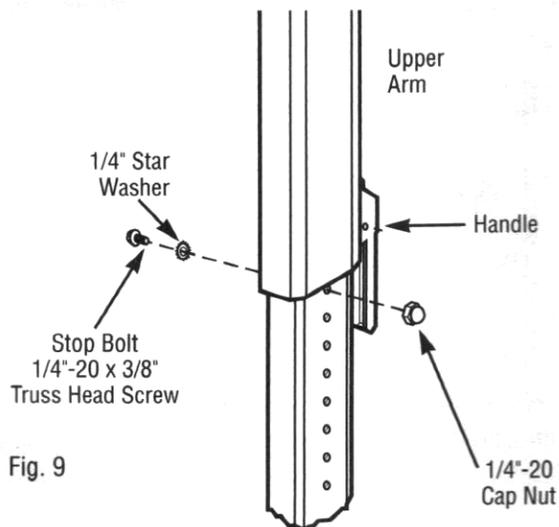

Fig. 9
- Select a stop bolt hole immediately below the upper arm. From the rear, push a 1/4"-20x3/8" truss head bolt with a 1/4" star washer through. From the front, secure bolt with 1/4"-20 cap nut. (See Fig. 9)